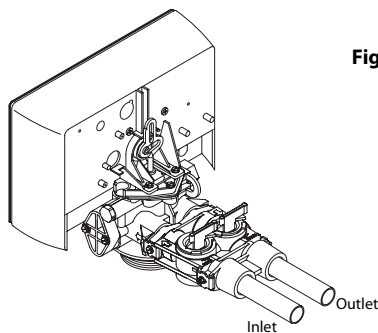

Figure 3
- Connect the raw water supply to the inlet pipe connection of the yoke. When looking at the front of the unit, the inlet is the pipe connection on the right side of the valve (see figure 3). There is an arrow molded into bypass valve indicating the direction of flow.
- Connect the treated water pipe to the outlet pipe connection on the yoke. When looking at the front of the unit, the outlet is the pipe connection on the left side of the valve (see figure 3). There is an arrow molded into the bypass valve indicating the direction of flow.